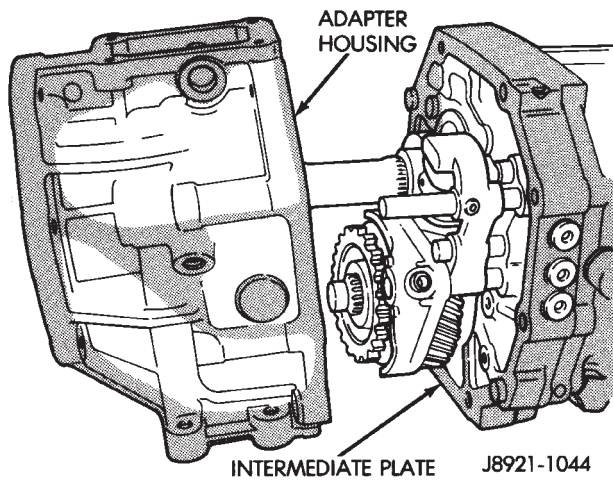

Fig. 14 Adapter Housing Removal
(17) Remove housing after loosening it (Fig. 14)